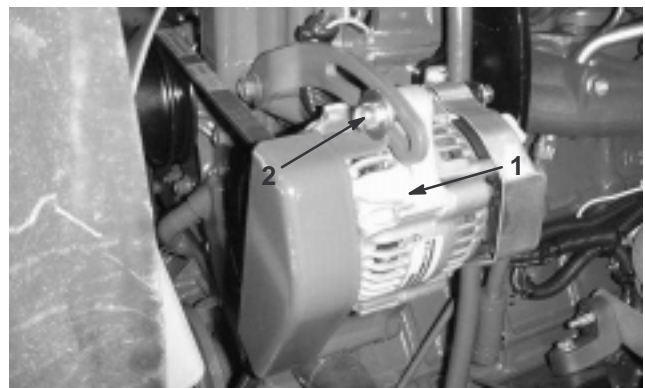

Figure 39
Check the condition and tension of the belts (Fig. 39) after every 100 operating hours.
2. If the deflection is not 3/8 in. (10 mm), loosen the alternator mounting bolts (Fig. 39). Increase or decrease the alternator belt tension and tighten the bolts. Check the deflection of the belt again to ensure that the tension is correct.